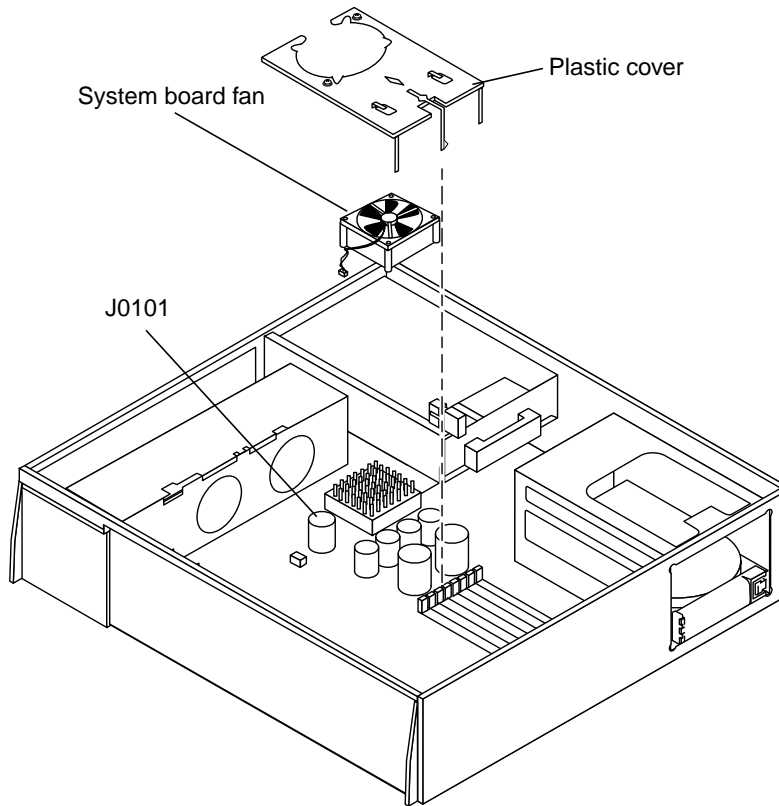

FIGURE 10-25 System Board Fan
6. Disconnect the board fan connector from the system board at J0101 (FIGURE 10-25).
1. Position the replacement system board fan on the system board (FIGURE 10-25).